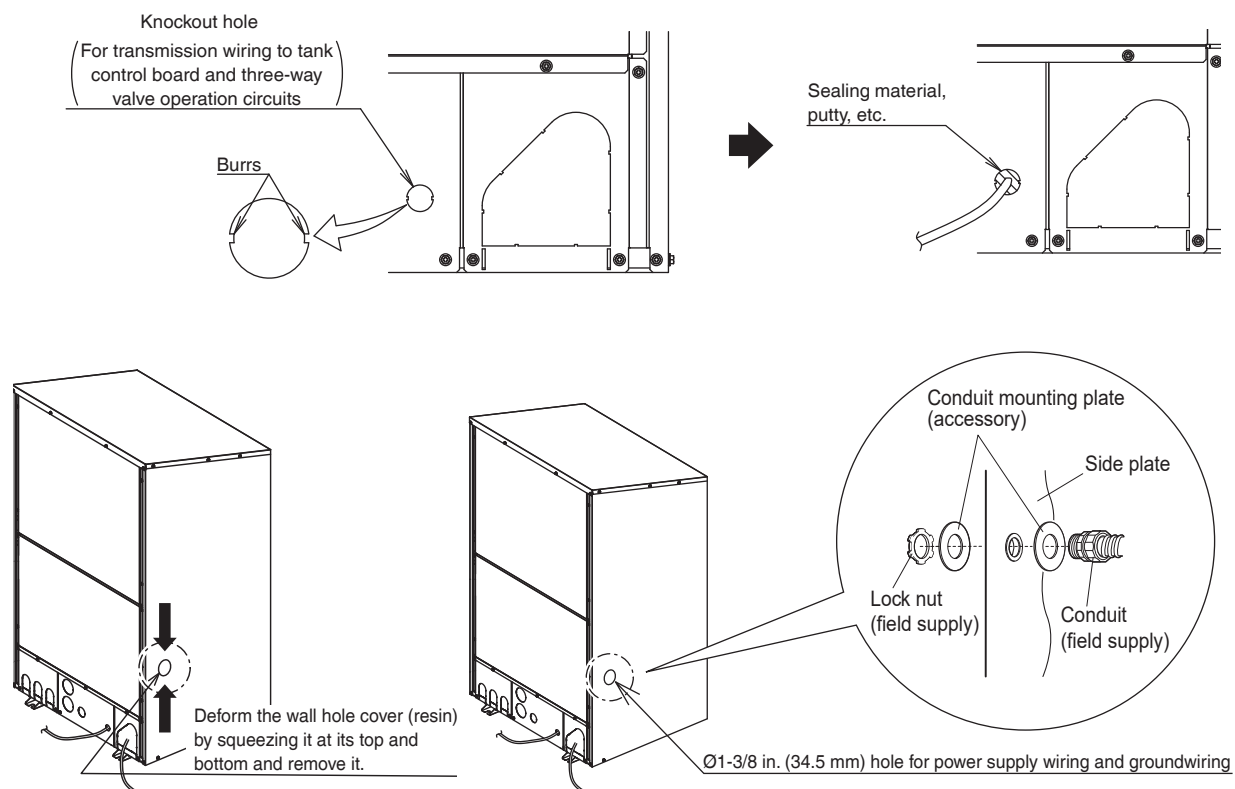

Fig. 17
- Power line: Remove the wall hole cover as shown below and connect the power line using conduit in Fig 17.